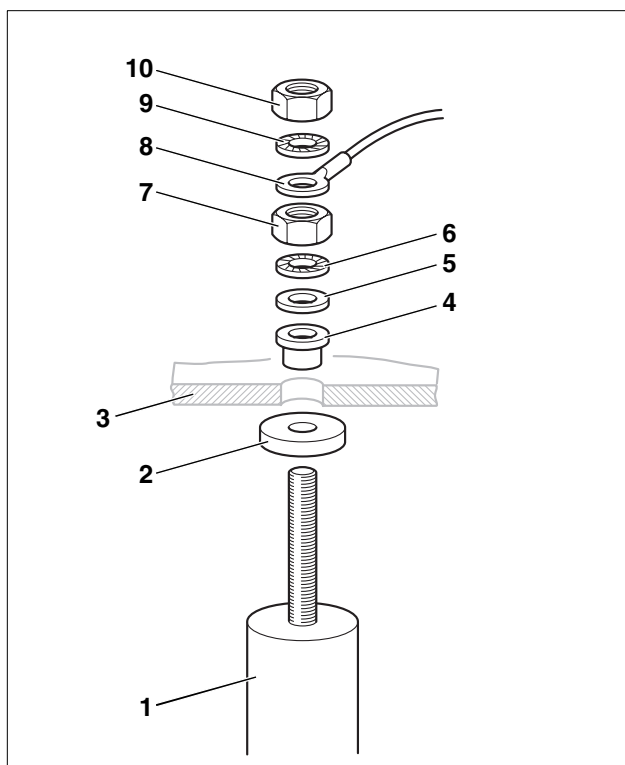

Fig. 18 Changing out of the Magnesium anode rod
- Check magnesium anode (Fig. 18, **Item. 1**) for decay. Replace anode rod, if the diameter is reduced to  $\frac{1}{2}$ " to  $\frac{3}{4}$ ".
- Remove the M8 nut (Fig. 18, **Item. 10**) to remove the ground cable (Fig. 18, **Item. 8**).
- Remove M8 nut (Fig. 18, **Item. 7**).
- Separate clean-out cover (Fig. 18, **Item. 3**) from the Magnesium anode rod (Fig. 18, **Item. 1**).
- Install new rod including the small parts, as shown in Fig. 18.